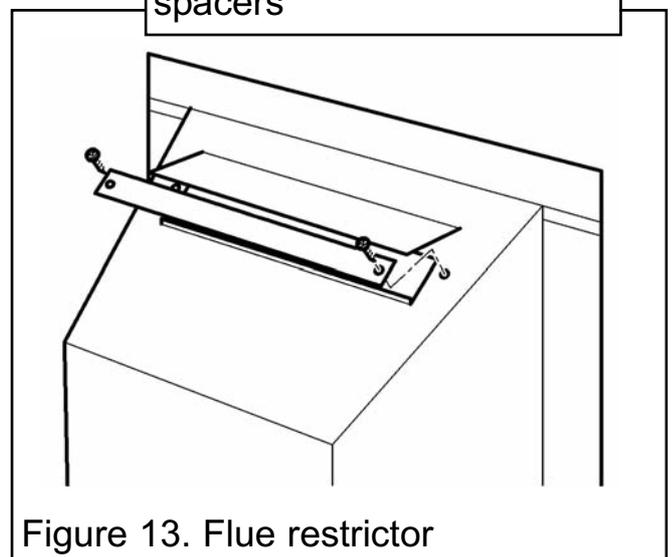

Figure 13. Flue restrictor
8. This appliance is supplied with a flue restrictor for use where the flue draught is excessive. Generally we recommend the restrictor is NOT fitted where a precast flue, metal flue box or a flue liner is used, however, certain flues may work sufficiently to warrant its use. There may however, be certain circumstances where fitting the restrictor causes the fire to fail the spillage test. In such cases the restrictor will have to be removed. After removal conduct the spillage check again. The restrictor is packed loose with the appliance and is fixed with two screws (See figure 13).